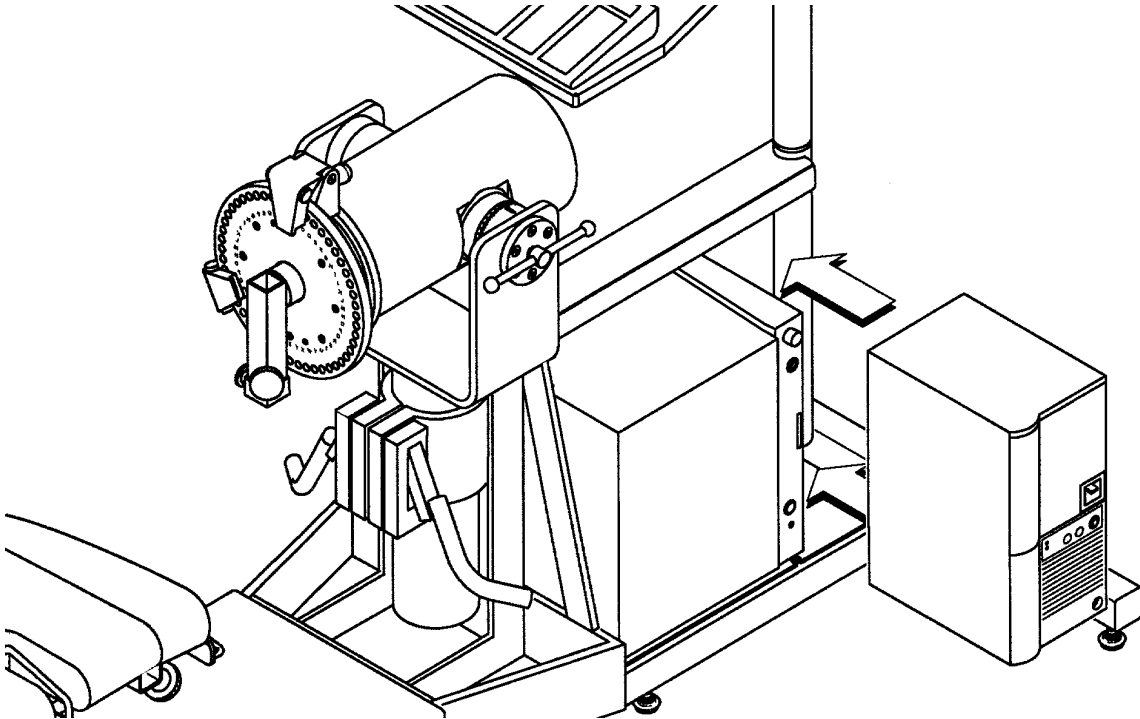

Figure 3-5. Computer Placement.
1. Slide computer into the open space of the Electronics Module base, with electronic connections facing the left side of the unit. (See *Figure 3-5*.)